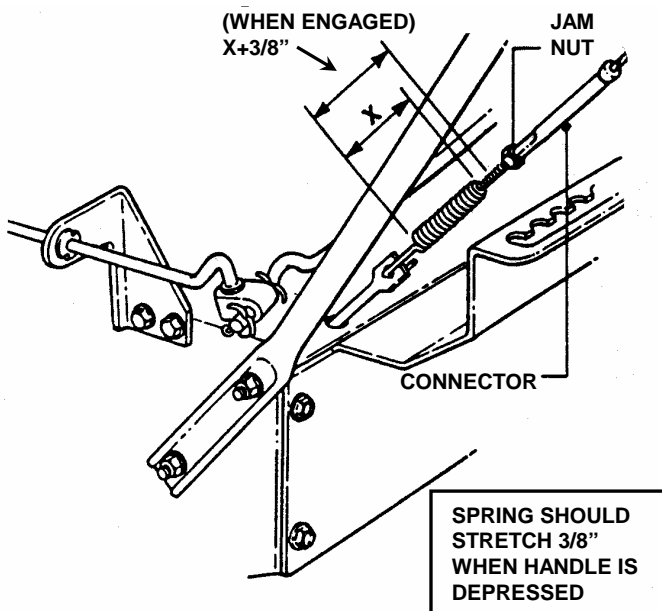

FIGURE 4.1
1. Measure control cable extension from a relaxed position to full extended position. Move control lever against handle. Measure from the top of spring (The top is in relation to where spring connects into connector). Proper extension should be $3/8$ " extension. See Figure 4.1.